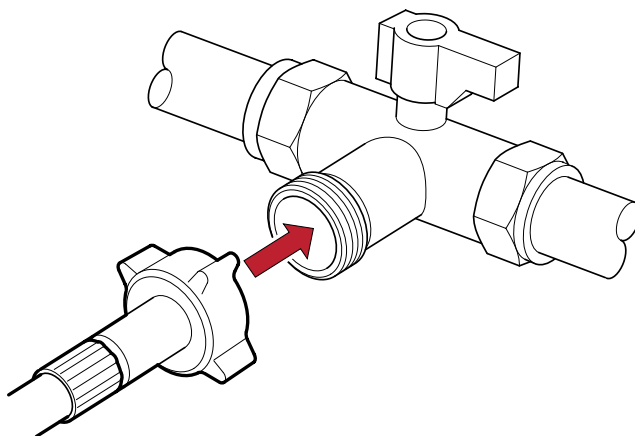

Figure 5
- 2 Connect the straight end of the fill hose to a 19 mm (3/4") cold water tap by screwing clockwise until hand tight (see Figure 5).